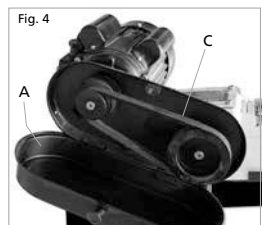

Fig. 4
1. Pull cover (A, Fig. 4) around motor shaft and worm gear shaft.
2. Loosen screw (B, Fig. 4.1) to move motor freely. Lift motor with one hand while the other hand places V-belt (C, Fig.4) on both pulleys.
4. Open pulley cover (A, Fig.4). Lift motor with one hand while placing the belt (C, Fig. 4) on the desired pulley combination.
5. Tension belt by pressing down on the motor while tightening hex nut (B, Fig.4,1) until finger pressure on the belt between the two pulleys causes approximately 1/2" deflection. Close pulley cover. Don't over tighten the belt.